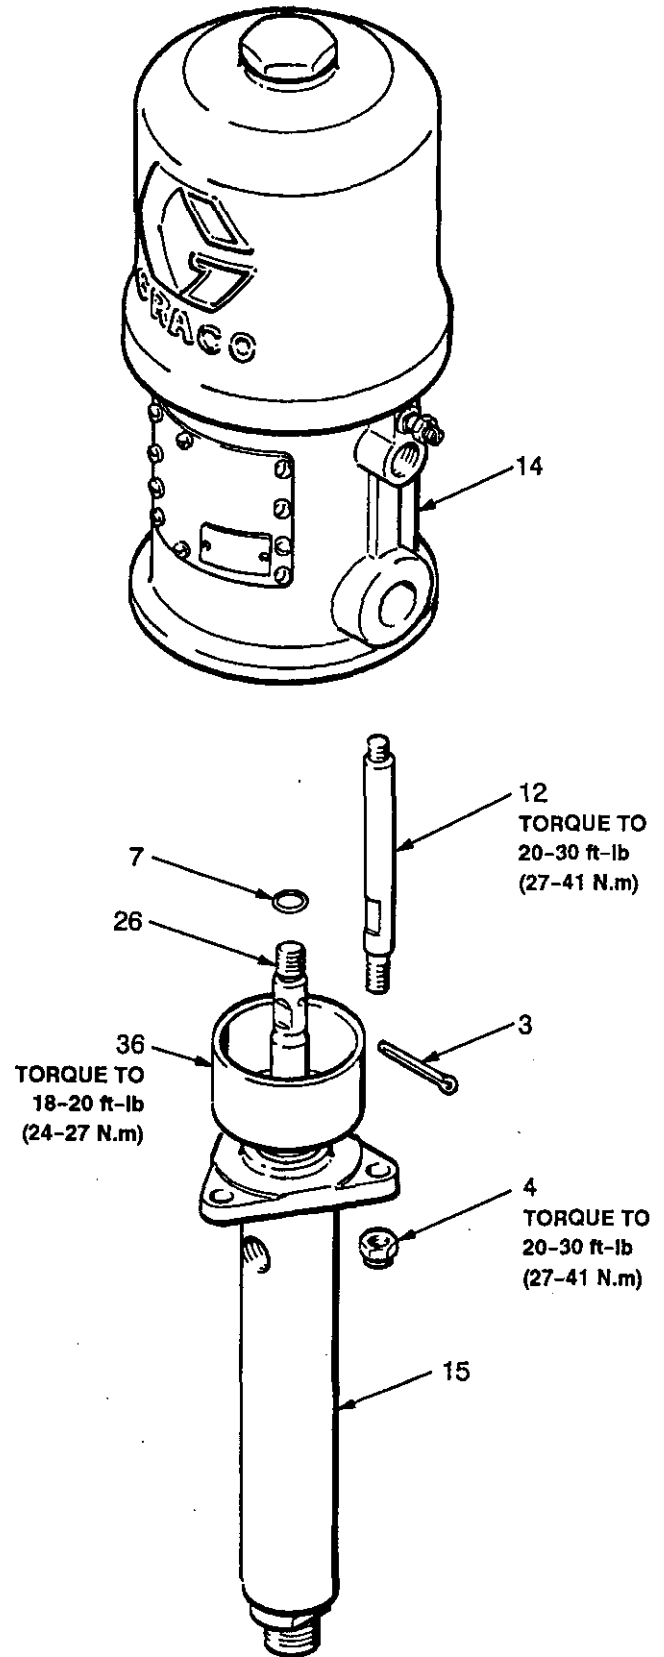

Fig 3
3. Unscrew the tie rod locknuts (4) from the tie rods (12). Remove the cotter pin (3). Unscrew the displacement rod (26) from the air motor (14) or connecting rod (37, Model 221-075 only). Carefully pull the displacement pump (15) off the air motor (14). See Fig 3.
1. Orient the pump's fluid outlet to the air motor's air inlet as was noted in step 2 under **Disconnecting the Displacement Pump**. Position the displacement pump (15) on the tie rods (12). See Fig 3.
2. Screw the locknuts (4) onto the tie rods (12) loosely. Screw the displacement rod (26) into the base of the air motor (14) or the connecting rod (37, Model 221-075 only). Install the cotter pin (3).
3. Mount the pump and reconnect all hoses. Reconnect the ground wire if it was disconnected during repair. Torque the packing nut/wet-cup (36) to 18-20 ft-lb (24-27 N.m). Fill the wet-cup with Graco Throat Seal Liquid or compatible solvent.
4. Tighten the tie rod locknuts (4) evenly, and torque to 20-30 ft-lb (27-41 N.m).